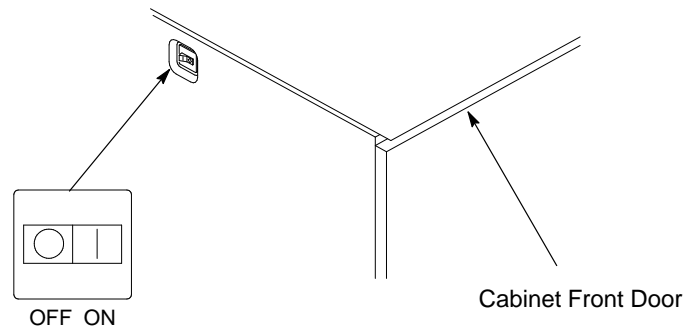

Figure 2–17. The Power Switch
2. Set the power switch to the ON position (see Figure 2–17). The printer initializes and runs several self-tests. The messages “TESTING HARDWARE / PLEASE WAIT” and “DIAGNOSTIC PASSED” will each display briefly. When the self-tests complete and the software has initialized successfully, the status lamps light to indicate the printer is online, and the message “ONLINE / LG” appears on the LCD.